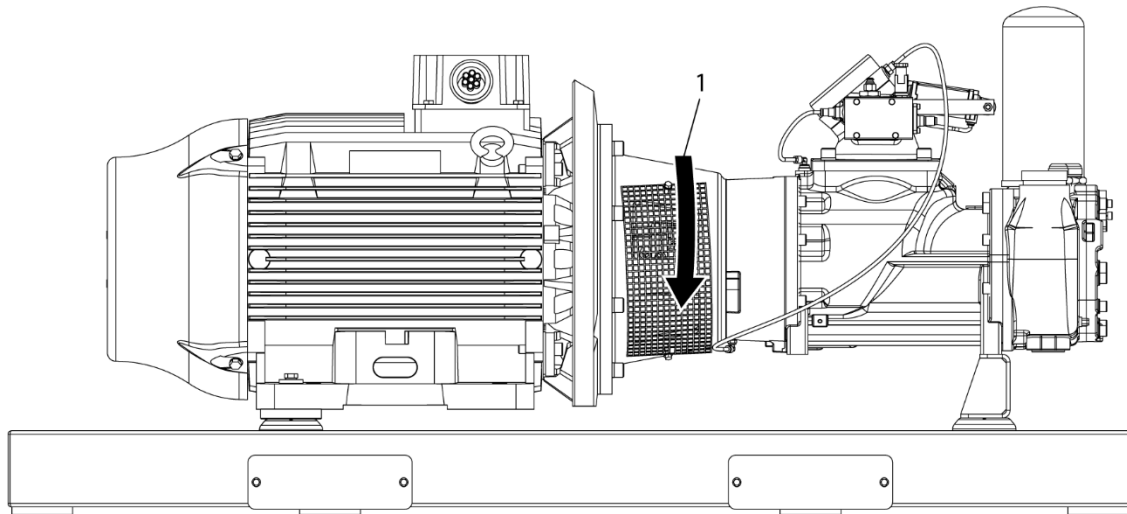
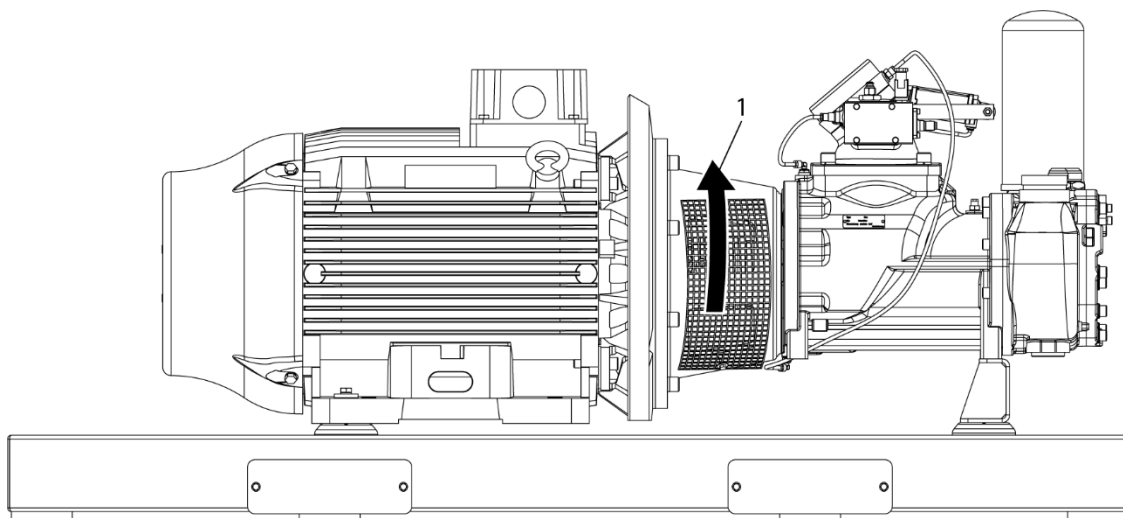

Fig. 5-1
Fig. 5-2
- Temporarily remove the panel in order to check the direction of rotation. See (-1- Fig. 5-1) for the prescribed direction of rotation of the drive motor of the geared compressor. See (-1- Fig. 5-2) for the prescribed direction of rotation of the drive motor with direct drive. For the prescribed direction of rotation of the fan, see direction of rotation arrow on the fan.